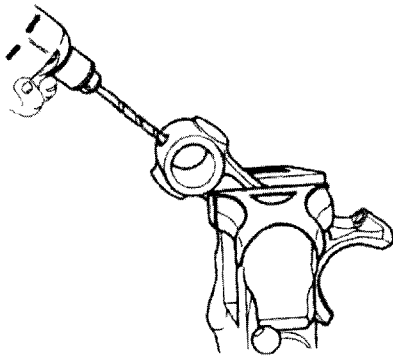

Figure 62
5. When installing a new pin bushing, use the hole in the rod as a guide and drill a lube hole in the new bushing, Figure 62.